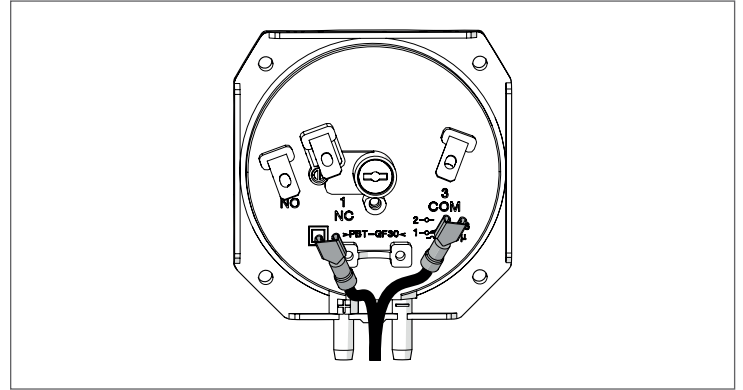
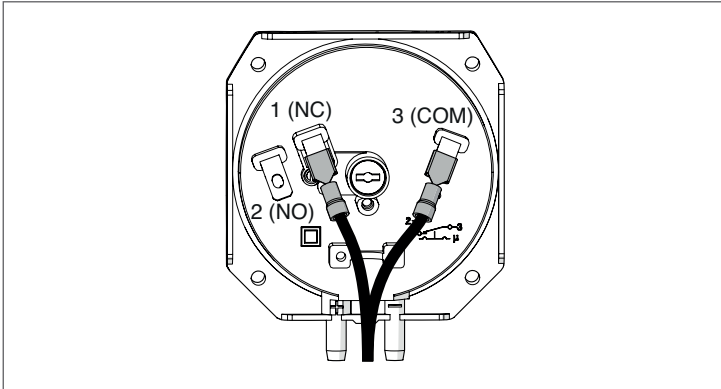

Fig. 73 Disconnect wires
Fig. 76 *Wired pressure switch*
- Test the pressure switch on the other side of the boiler (module 4 or 8); repeat the process from Fig. 73 through Fig. 76.
- Follow the steps from Fig. 73 through Fig. 76.